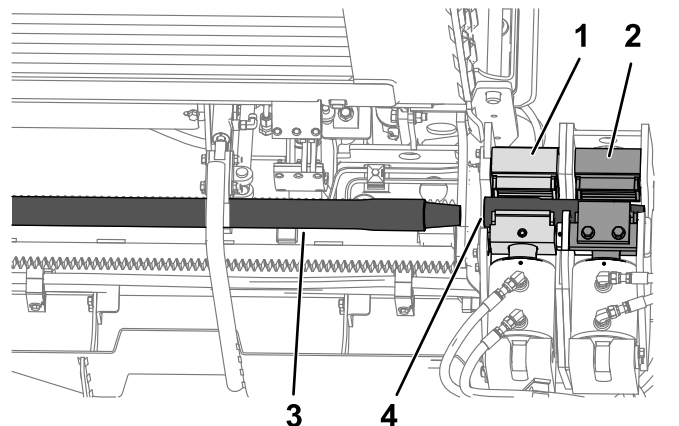

Figure 66
4. Pull the drill pipe and lead bar back through the pipe guide and into the wrenches, aligning the shoulder of the upper joint of the lead bar with the upper wrench (Figure 66).